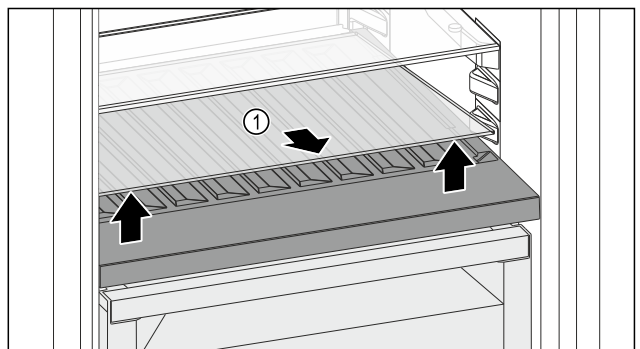

Fig. 156
- ▶ Lift the glass shelf Fig. 156 (1) at the front and remove.
- ▶ Store the glass shelf Fig. 156 (1) in a safe place outside the appliance.